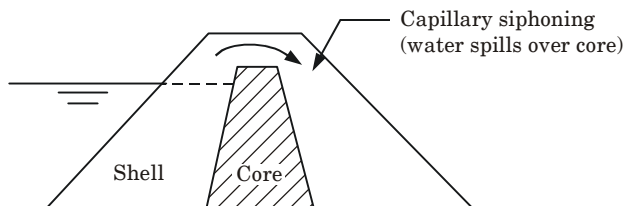

Fig. 6. Capillary siphoning.
1. In an earth dam with an impervious core, capillary siphoning may occur as shown in Fig. 6.